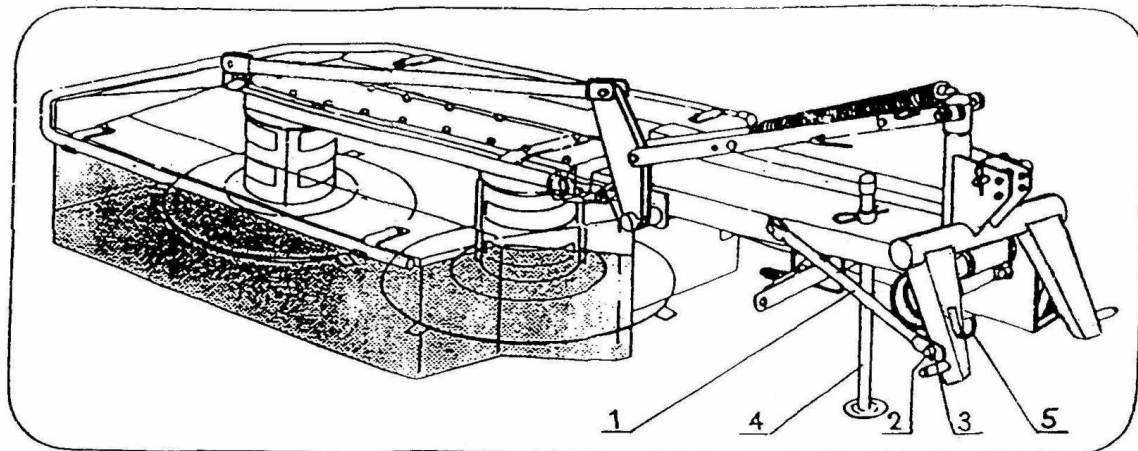

Fig. 3. Linking of the mower and the tractor into a working unit.
Before disconnecting the mower from the tractor, place the mower on a support 4. and rest the jointed shaft on the yoke 5. (Fig. 3.)
- Set up the three-point frame in a transport position - the transport rod 1. should be placed on mandrel 2. of the three-point frame and secured with a pin 3. (Fig. 3.).
- Set up the support 4 (Fig. 3.) in position for the stop.